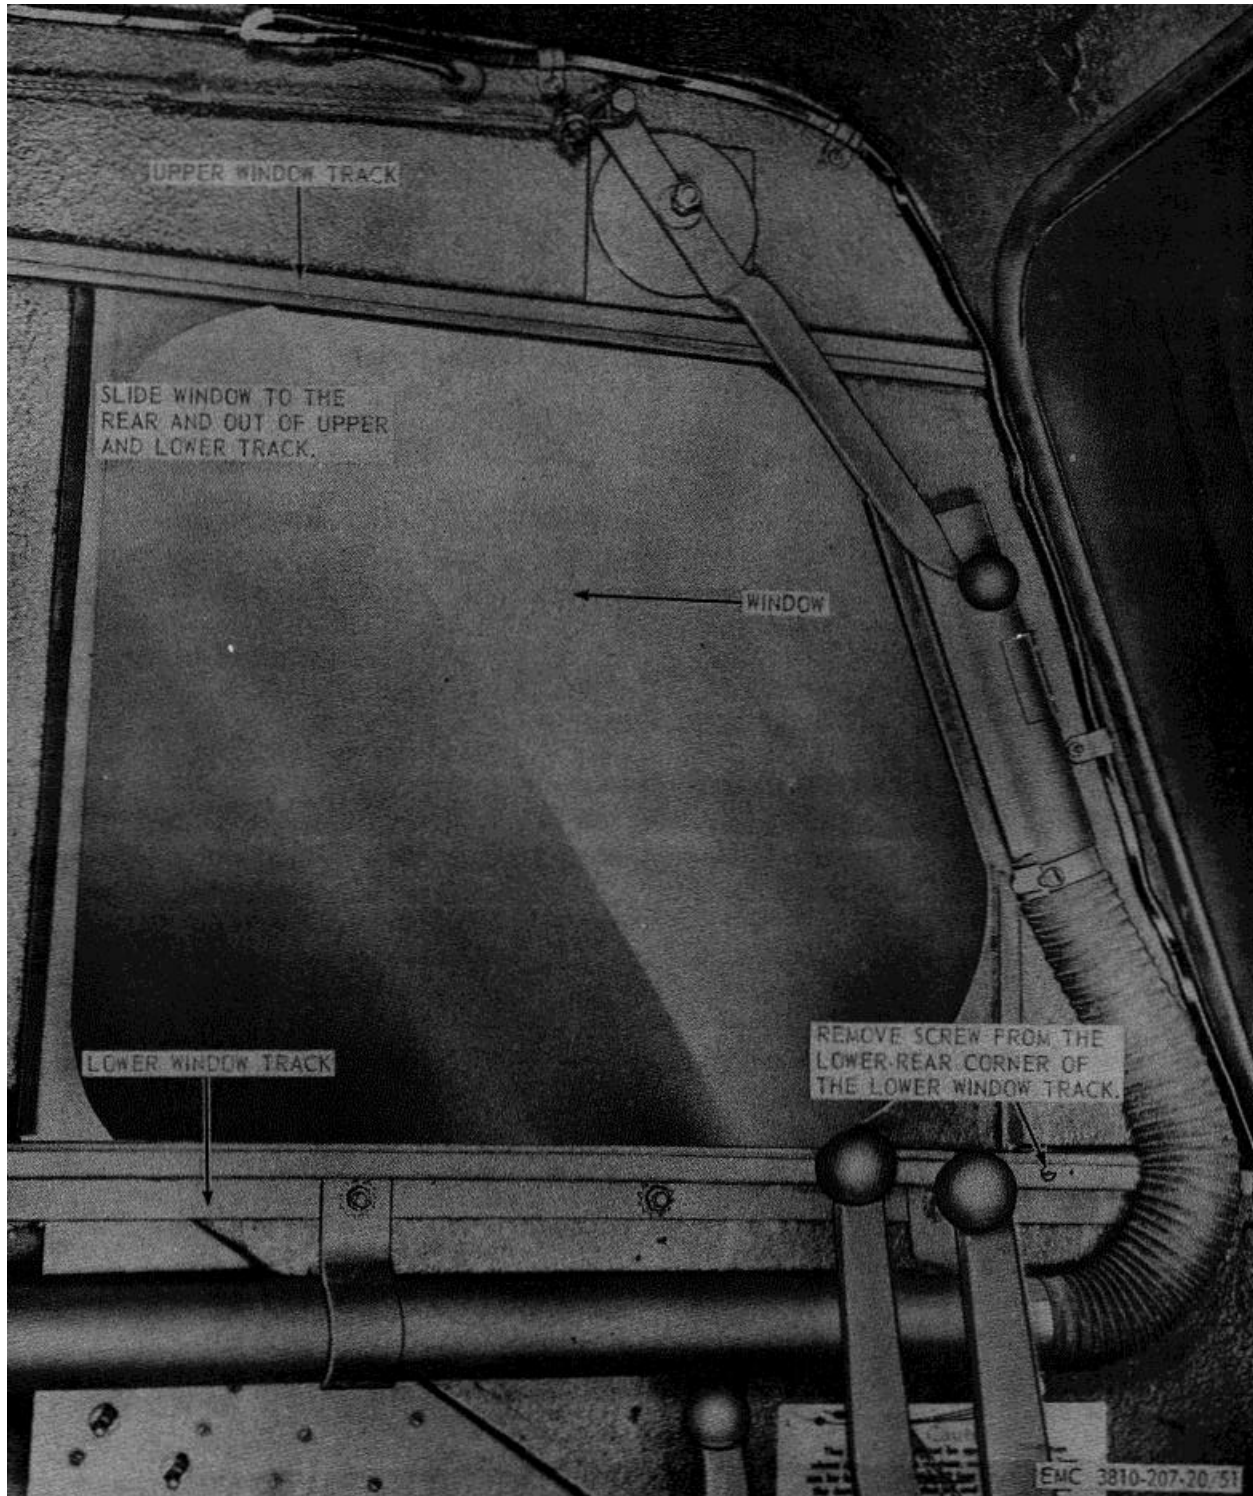

Figure 51. Operator's cab left-hand window, removal and installation.
a. *Removal.* Remove the operator's cab left-hand window as instructed on figure 51.
- (1) Clean all parts with an approved cleaning solvent.
- (2) Inspect the window and track for breaks, cracks, and other damage. Replace defective window and tracks.
c. *Installation.* Install the tracks and window as illustrated on figure 51.